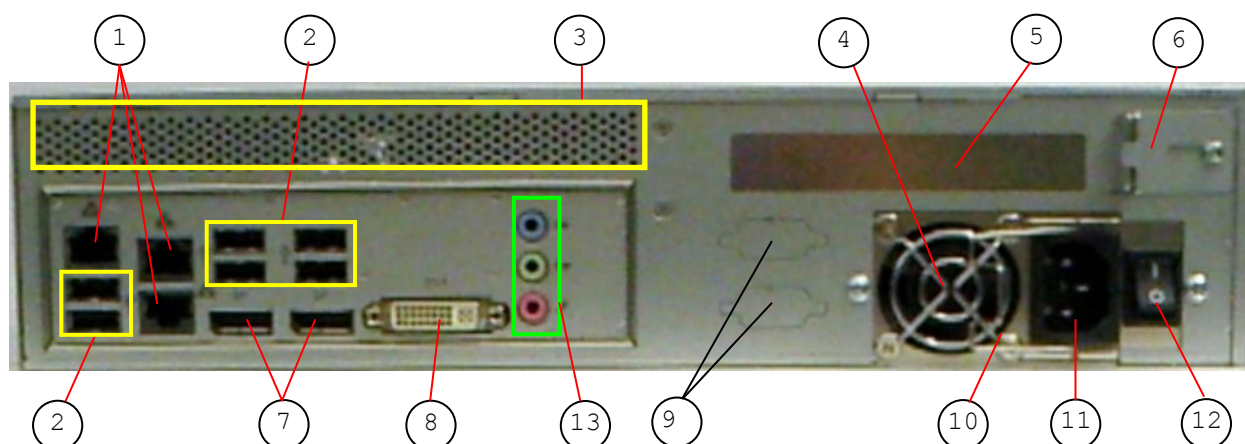

Fig. 8: OmniClient Bottom Side (interface side)
4. To remove/install an expansion card, you have to remove the corresponding expansion card/slot retaining bracket (refer to figure 8, position 6). Loosen the corresponding fastening screw, which secures the slot bracket and remove it. Retain the screws and retaining bracket for later use.